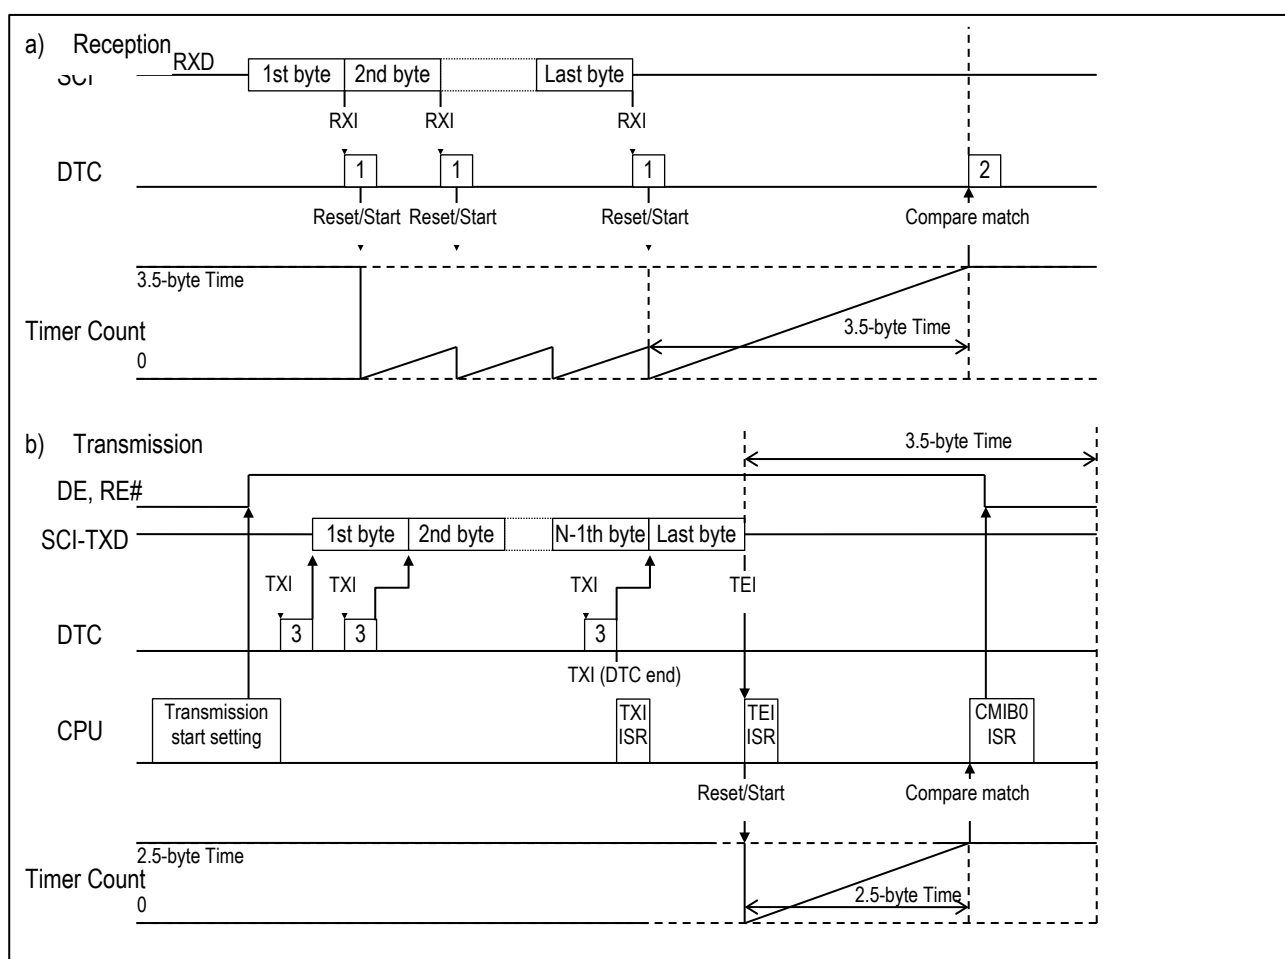
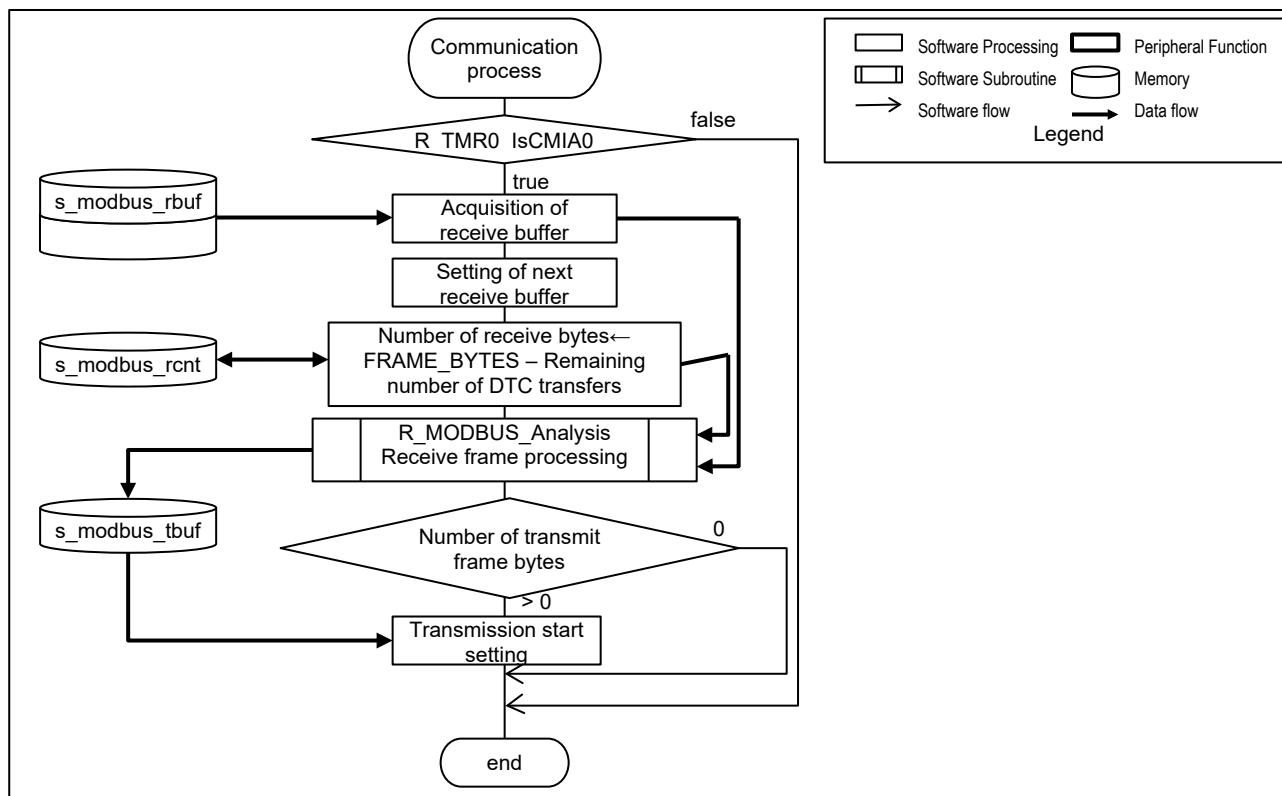

Figure 8-3 Modbus Communication Timing Chart
Figure 8-4 Modbus Communication Process Flow
A communication timing chart is shown in Figure 8-3, and the communication process flow is shown in Figure 8-4.
(1) At the RXI1 interrupt request for every 1-byte reception, DTC transfer 1 (DTC_RXI1) performs the following:
(2) On TMR0 compare match A interrupt request (CMIA0), DTC transfer 2 (DTC_CMIA0) performs the following:
(3) As shown in Figure 8-4, when CMIA0 is detected, the program acquires and clears the DTC transfer count and processes the Modbus receive frame in the receive buffer.
- (1) To prepare for transmission, the program performs the following in "Transmission start setting" in Figure 8-4.
- (2) On TXI1 interrupt request, DTC transfer 3 (DTC_TXI1) transfers 1 byte of the transmission frame to the transmission register.
- (3) On TXI1 interrupt request due to the completion of DTC transfer 3 (DTC_TXI1), the interrupt handler performs the following actions:
- (4) On TEI1 interrupt, the interrupt handler performs the following actions: